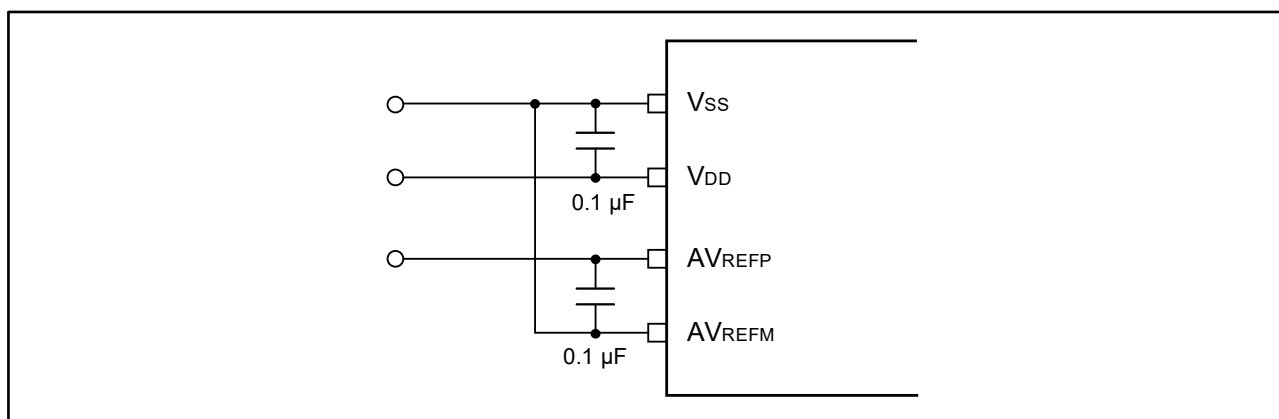

Figure 10: Power Supply Pin Connection Example
- (1) Connect a capacitor with a low equivalent resistance and a good frequency response to the power supply.
- (2) The higher the output impedance of the analog input source, the greater the influence. To reduce the noise, connecting external capacitor as shown in Figure 10 is recommended.
- (3) Do not switch these pins with other pins during conversion.
- (4) The accuracy is improved if the HALT mode is set immediately after the start of conversion.